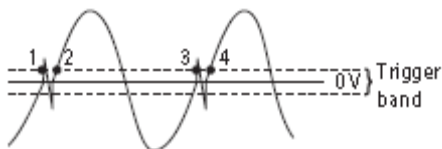

Figure 5. The two small peaks (spurious signals in this case) generate unwanted triggers at point 1 and point 3 because the trigger band is set too narrow.
- High quality counters let you adjust this band to minimize unwanted triggering. Figure 5 shows a signal with some noise that are causing problems with the measurement. The trigger band is fairly narrow, so both the unwanted noise (at points 1 and 3) and the real signal (at points 2 and 4) cause the counter to trigger. What is really just two cycles of the signal get counted as four.